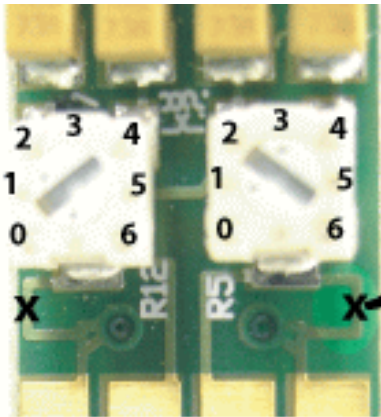

fig 6
- 2) For each channel that you wish to have a volume control, a trace must be cut on the circuit board. The trace cut is shown in fig 6.